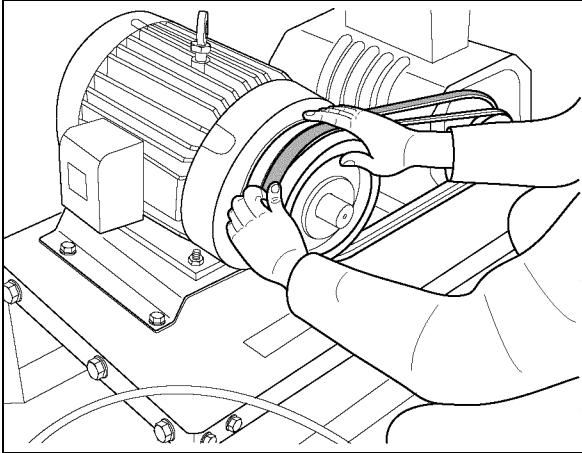
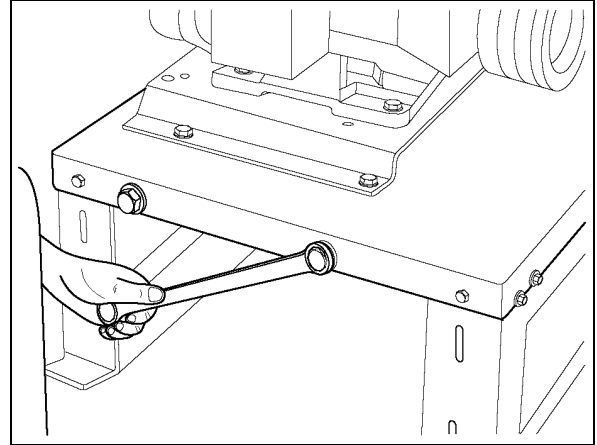

Figure 7D
Figure 7E
5. See *Figure 7D* Place the matching set of V-belts on the pulleys. Tighten the belts by evenly turning the cap screws clockwise. Belts should have 3/8" deflection at ten pounds pressure per belt. (See *Figure 7E*).